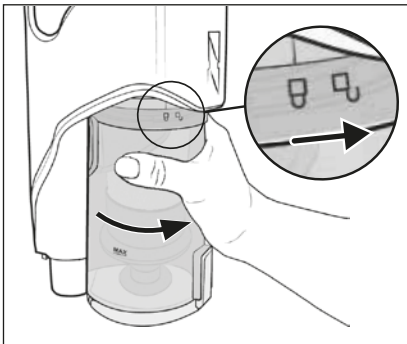

Fig. 23
- 8) Put the dust container **6** back into the appliance and turn it in the direction of the symbol  (close) until it is firmly seated in the appliance (see Fig. 23).